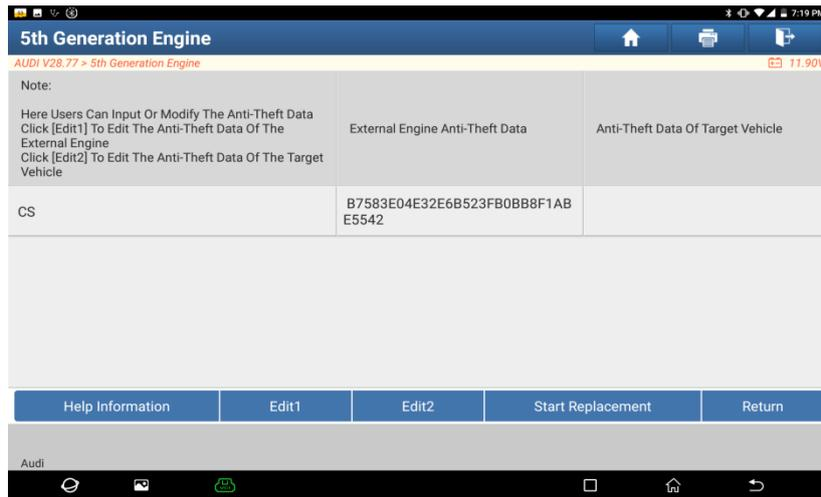

Figure 18
3.2.1.14 Click [OK], the device will display the Anti-Theft information of external Engine, and you can take a screenshot or take a photo to save, as shown in Figure 18.